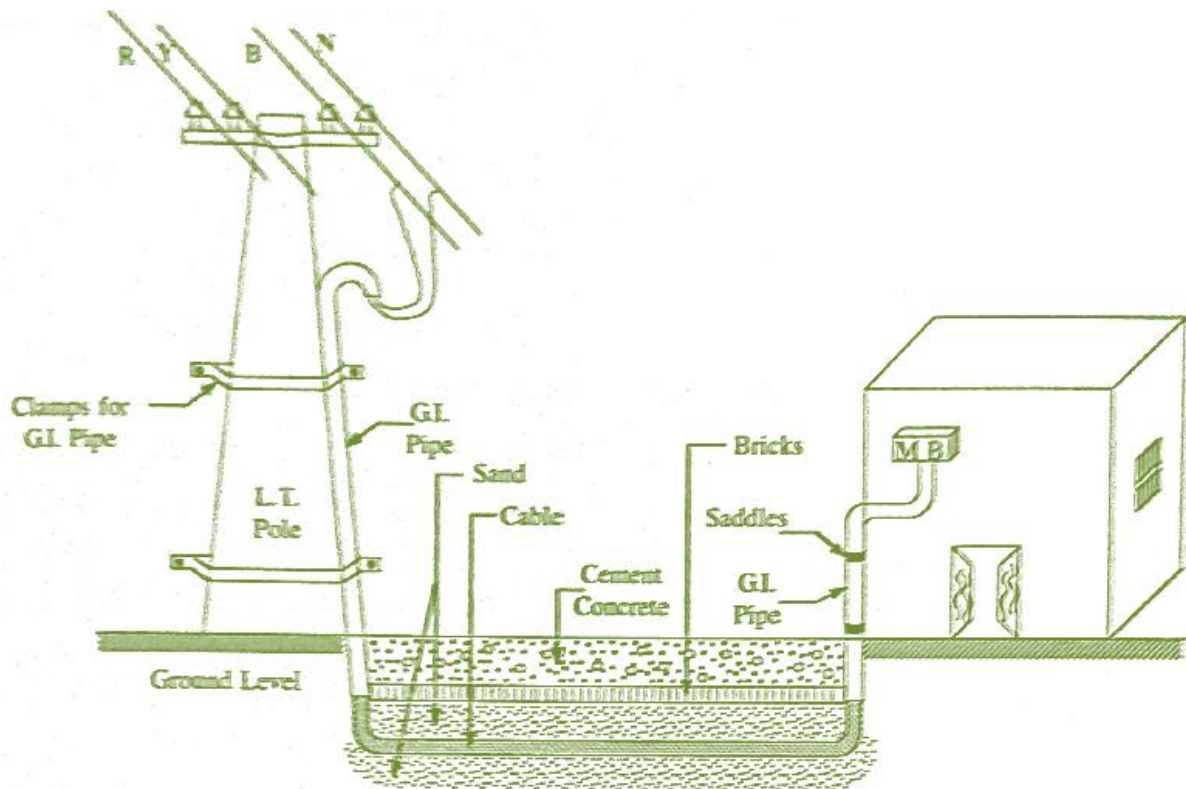

Fig 2.4 : Underground Cable Service Connection
- The pipes are properly secured to the L.T pole and wall as shown in Fig 2.4.